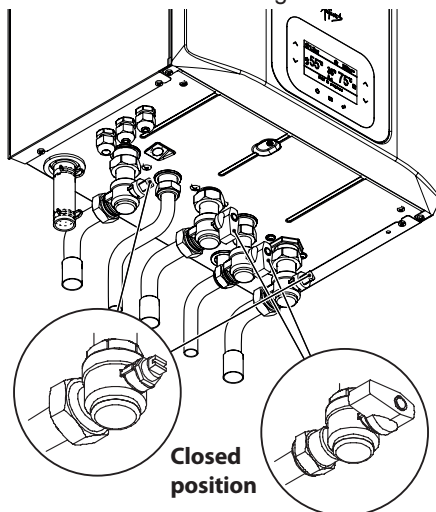

Fig. 2.48
- Close the boiler cocks Fig. 2.48.